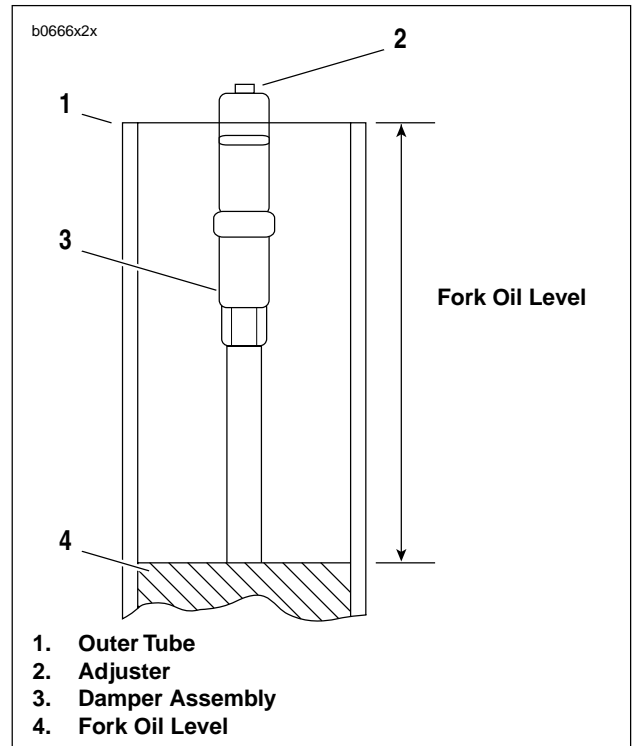

Figure 1-34. Correct Fork Oil Level
3. See Figure 1-34. Pump damper assembly (3) and leg slowly about 10 times, using 6.0 in. (150 mm) strokes.